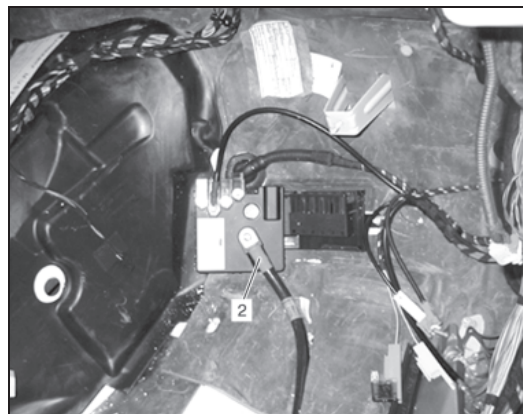

Figure 5 P-B-54.181/08
**i** **Note:** Ensure that the battery cable in the interior of prefuse box is not under tension (Figure 5, 2). If the cable is under tension it can bend and/or misalign the terminal point in the interior of the prefuse box. A tilted installation position can also lead to contact problems in this case. Figure 5 shows the correct installation position of the battery cable.